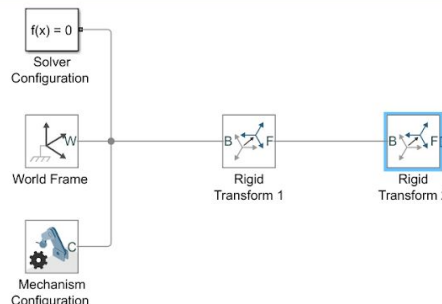

Figure 3: Adding the second transformation
- c) Add another transformation. The second transformation should be a 180 degree rotation about the $+Z$ axis (Figure 3).